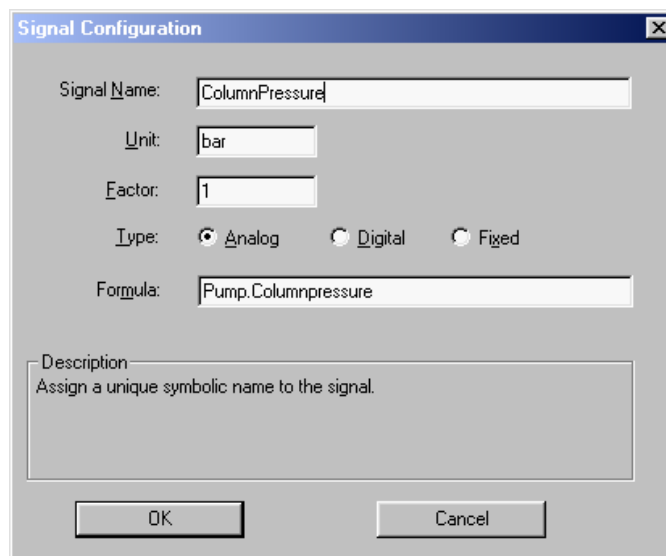

FIGURE 4-6 Virtual Channel Setup for Column Pressure Readout
- b) Check the first channel and click on **Change** to configure it. To readout the column pressure, configure the *Signal Configuration* box as indicated in FIGURE 4-6.